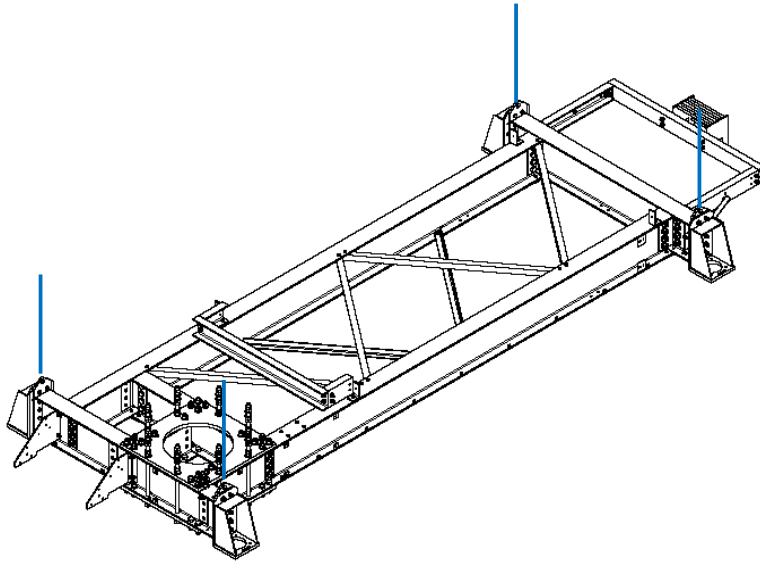

Figure 1 – Core module with slings (in blue colour) attached to lifting lugs for lifting.
- Secure the lifting slings to the lifting lugs on the core module as shown in Figure 1.